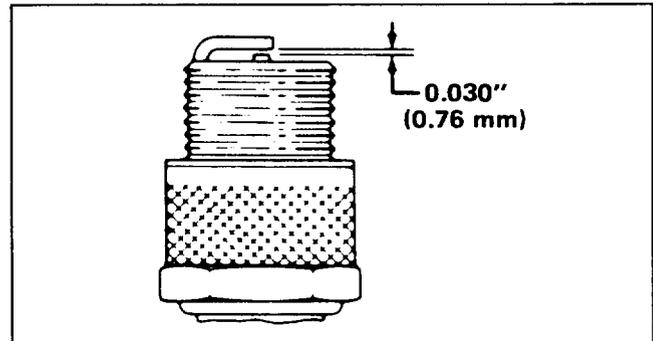

Figure 17
3. INSTALL SPARK PLUG – Set air gap (Fig. 17) between electrodes at .030" (.76 mm). Install plug and tighten to 15 ft-lb (20.4 N·m). If torque wrench is not used, tighten plug firmly with wrench by hand; **DO**